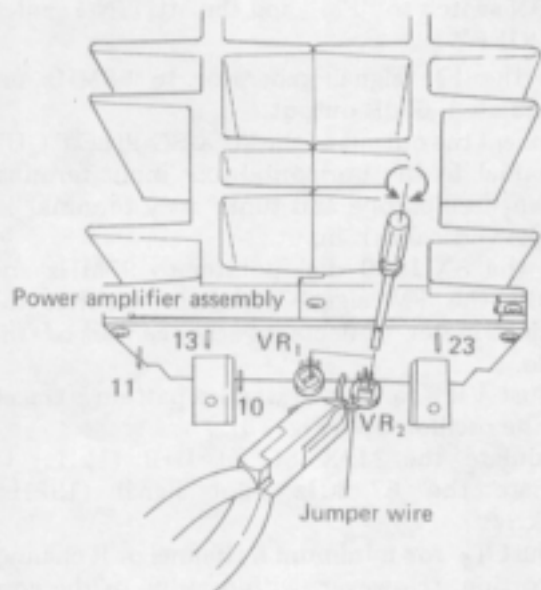

Fig. 14 Power amplifier adjustment
3. When 0V cannot be obtained by performing the adjustment of item 2 above, cut the jumper wire shown in Fig. 14 and adjust to 0V with VR2.
4. Thr R-ch also uses the power amplifier ass'y (AWH-071). Check and adjust this channel in accordance with items 1 - 3 above.